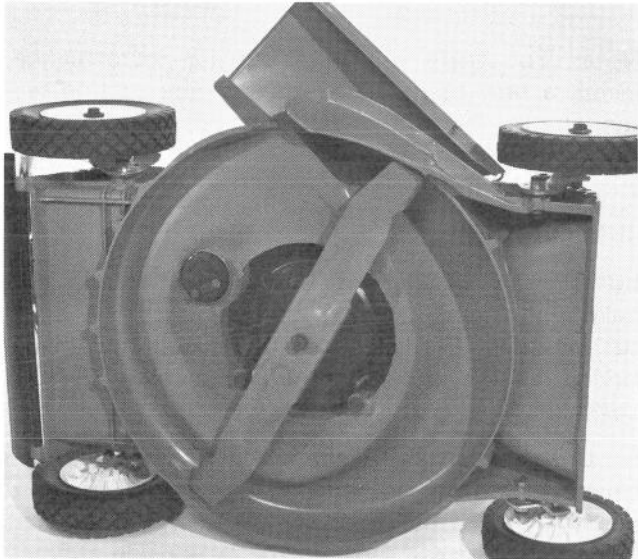

Figure 29
3. Tip mower on its left side (Fig. 29). Remove grass clippings and dirt that sticks to the housing by spraying it with a garden hose. Scrape out any grass that water does not remove from housing.